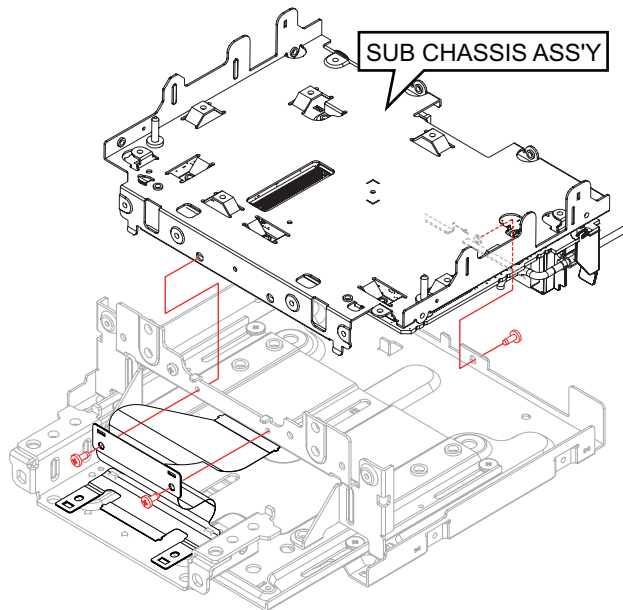

Fig.20
3.1.8 Removing the GYRO PWB (See Fig.20 and 21)
- (1) Remove the 3 screws, and remove the SUB CHASSIS ASS'Y. (See Fig.20)